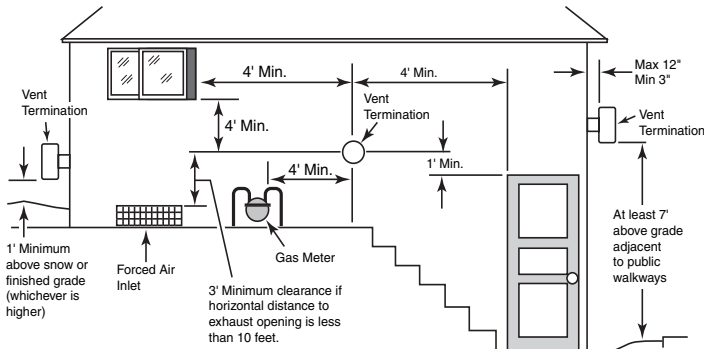

FIGURE 13: U.S. minimum Exhaust Vent clearances. Local codes may differ - consult local code officials
## HORIZONTAL OR VERTICAL VENTING - POSITIVE PRESSURE (See Figure 13)
- Vent Termination – Horizontal (See Table 7). Use a listed wall thimble and vent terminal from Table 7. The terminal must be located (U.S.-See Figure 13):